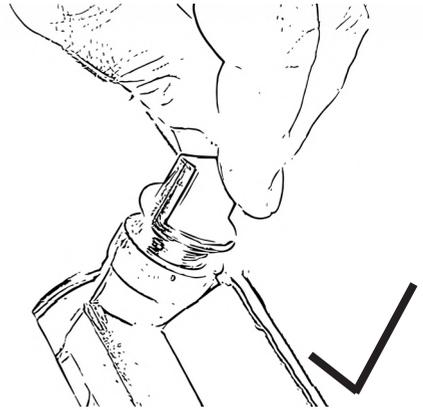

Figure 3
- Unscrew the oil filler plugs with connected dipstick, Fig. 3.